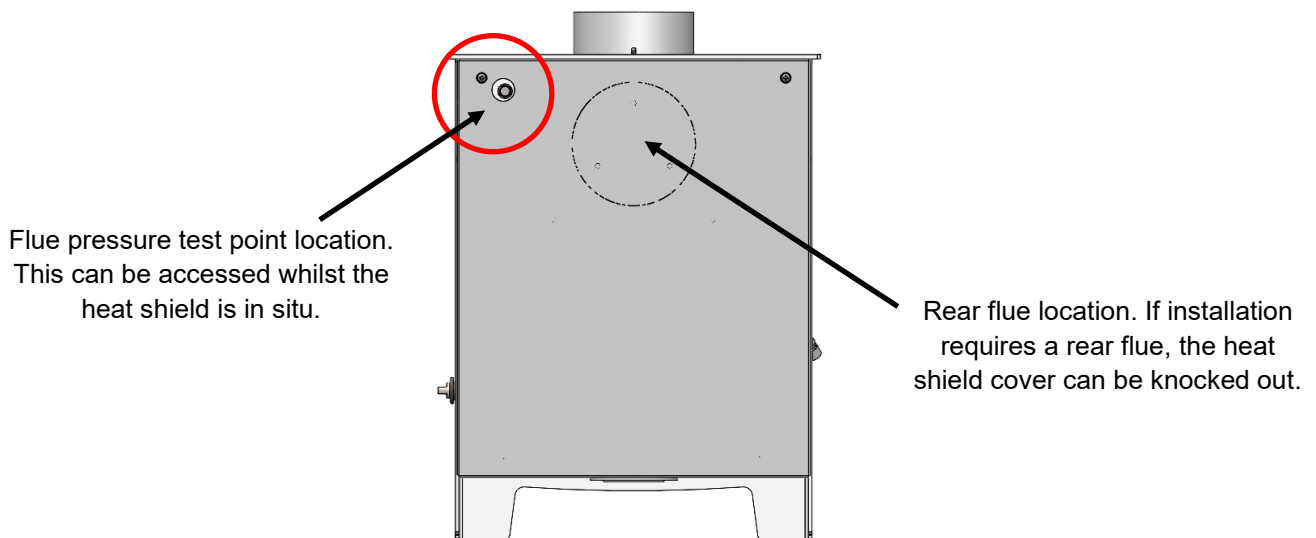

Figure 4. Rear Heat Shield Layout
**Step 5 :** With the heat shield fitted (See Fig. 4.), please observe the revised distance to combustible materials, as stated in the instruction guide (BK 789).